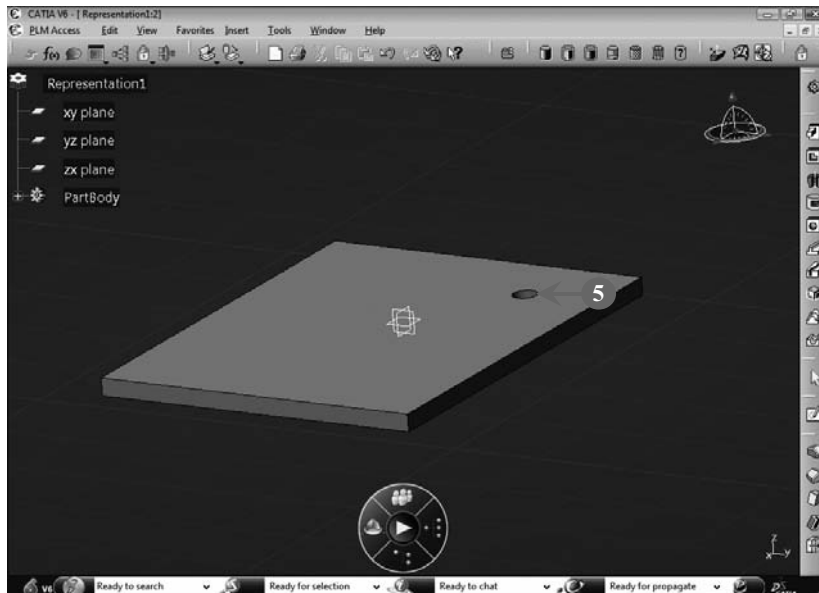

FIGURE 3.116
5. Add a pocket to the solid model. The figure of the solid model after adding the pocket is shown in **Figure 3.116**: